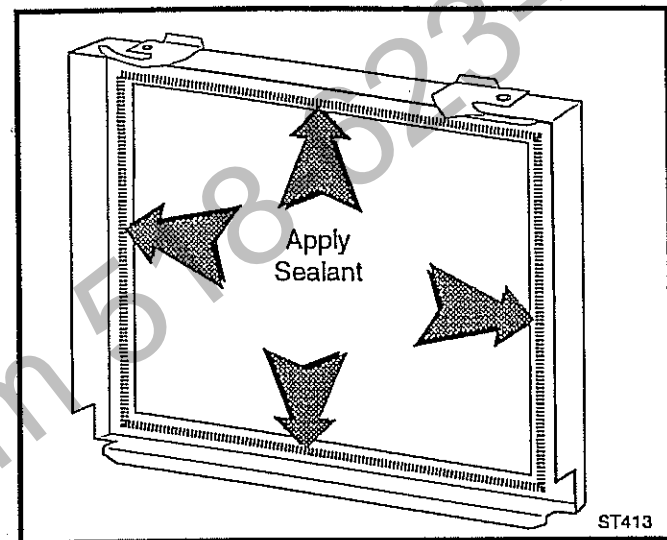

Fig. 70 Apply a bead of sealant all around the window opening.
4. Apply a thin bead of silicone rubber sealant all around the perimeter of the frame opening, as shown in Figure 70.